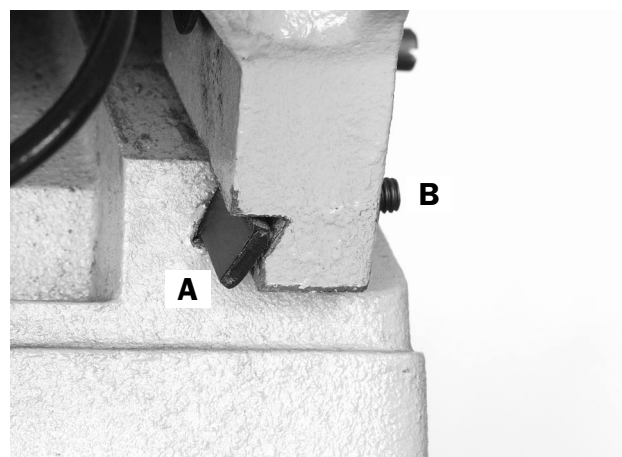

Fig. 12
The gibs Fig. 12 (A) are designed to take up any play that may exist in the sliding dovetail that joins the in and outfeed table casting to the base casting. If there is any adjustment needed;
2. For the infeed table, loosen the table locking lever Fig. 8 (Previous Page), and turn the gib adjustment screws Fig 12 (B), start with the lower adjustment screw and work your way to the top. Slightly raise the back edge of the table as you make the adjustment to prevent any sagging.